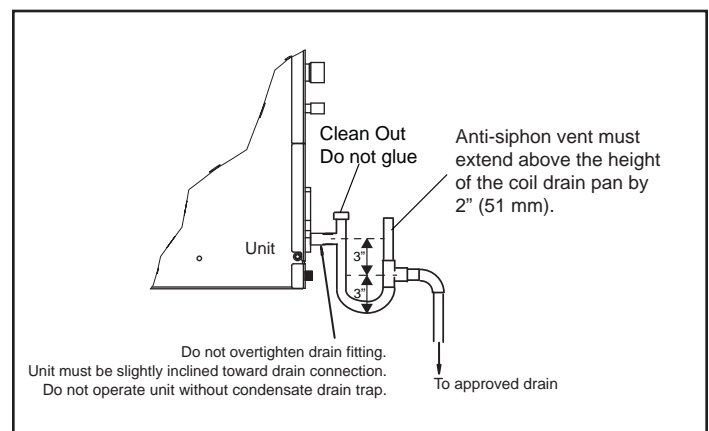

Figure 4. Condensate Drain Trap
5. Install a 3" trap in the main (primary) drain lines as close to the unit as practical (see figure 4). Make sure the top of the trap is below the connection to the drain pan to allow complete drainage of the pan. NOTE - Horizontal runs must have an anti-siphon air vent (standpipe) installed ahead of the horizontal run. See figure 4. An extremely long horizontal run may require an oversized drain line to eliminate air traps.